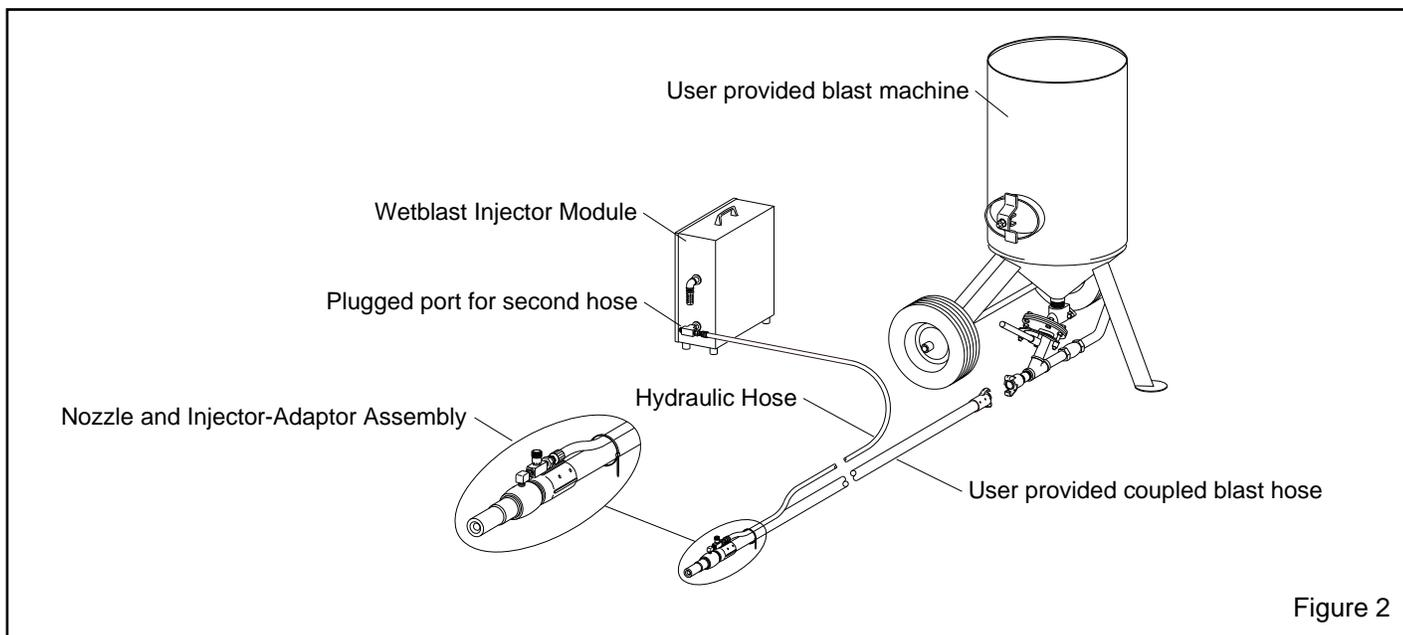

Figure 2
1.4.1 The wetblast water-injector is a stand-alone system that provides water injection capability to any dry abrasive-blast machine. The unique water-injection design, combined with precise abrasive and water metering, reduces or eliminates dust normally found with dry blasting operations. The illustration in Figure 2 shows a typical set up with a blast machine.